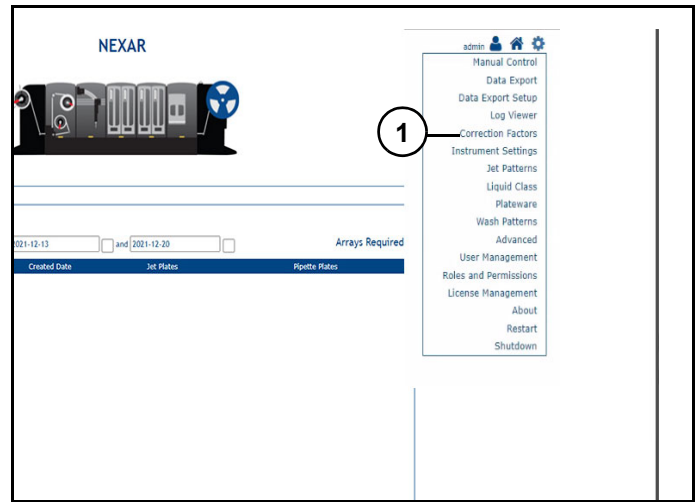

Figure 16
Correction Factors (1) (Figure 16): Opens correction factors page.